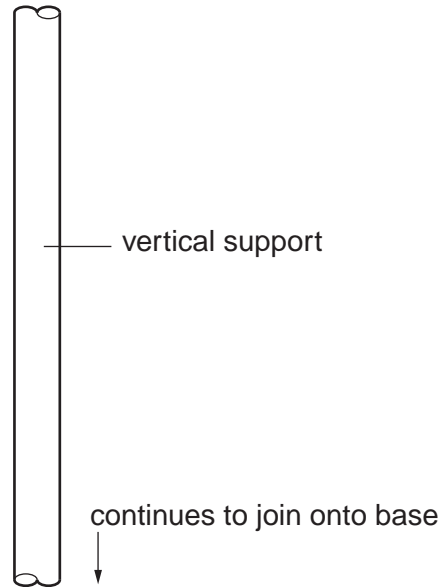

Fig. 9
- 9 Fig. 9 shows an incomplete design for a bicycle repair stand.